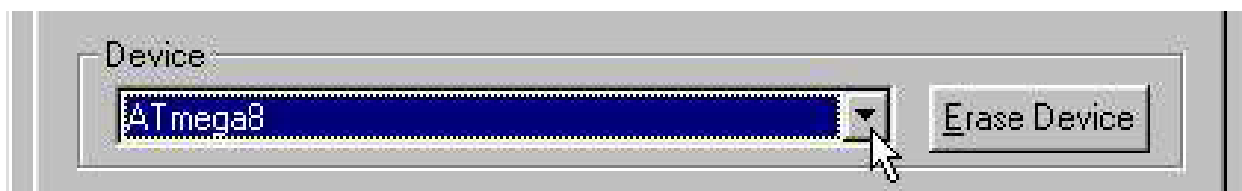

FIGURE B-11: CPU SELECTION USING AVR STUDIO
- D4) Select as CPU ATmega328, like in figure B-11.